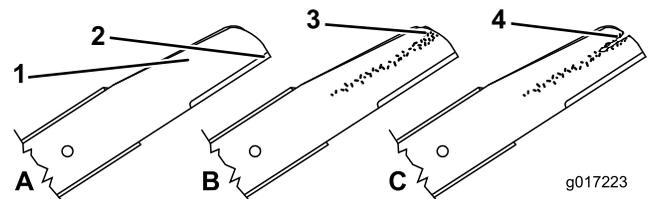

Figure 38
1. Inspect the cutting edges (Figure 38). If the edges are not sharp or have nicks, remove the blades and have them sharpened or replace them.
2. Inspect the blades themselves, especially the curved area (Figure 38). If you notice any damage, wear, or a slot forming in this area, immediately replace it with a new blade.